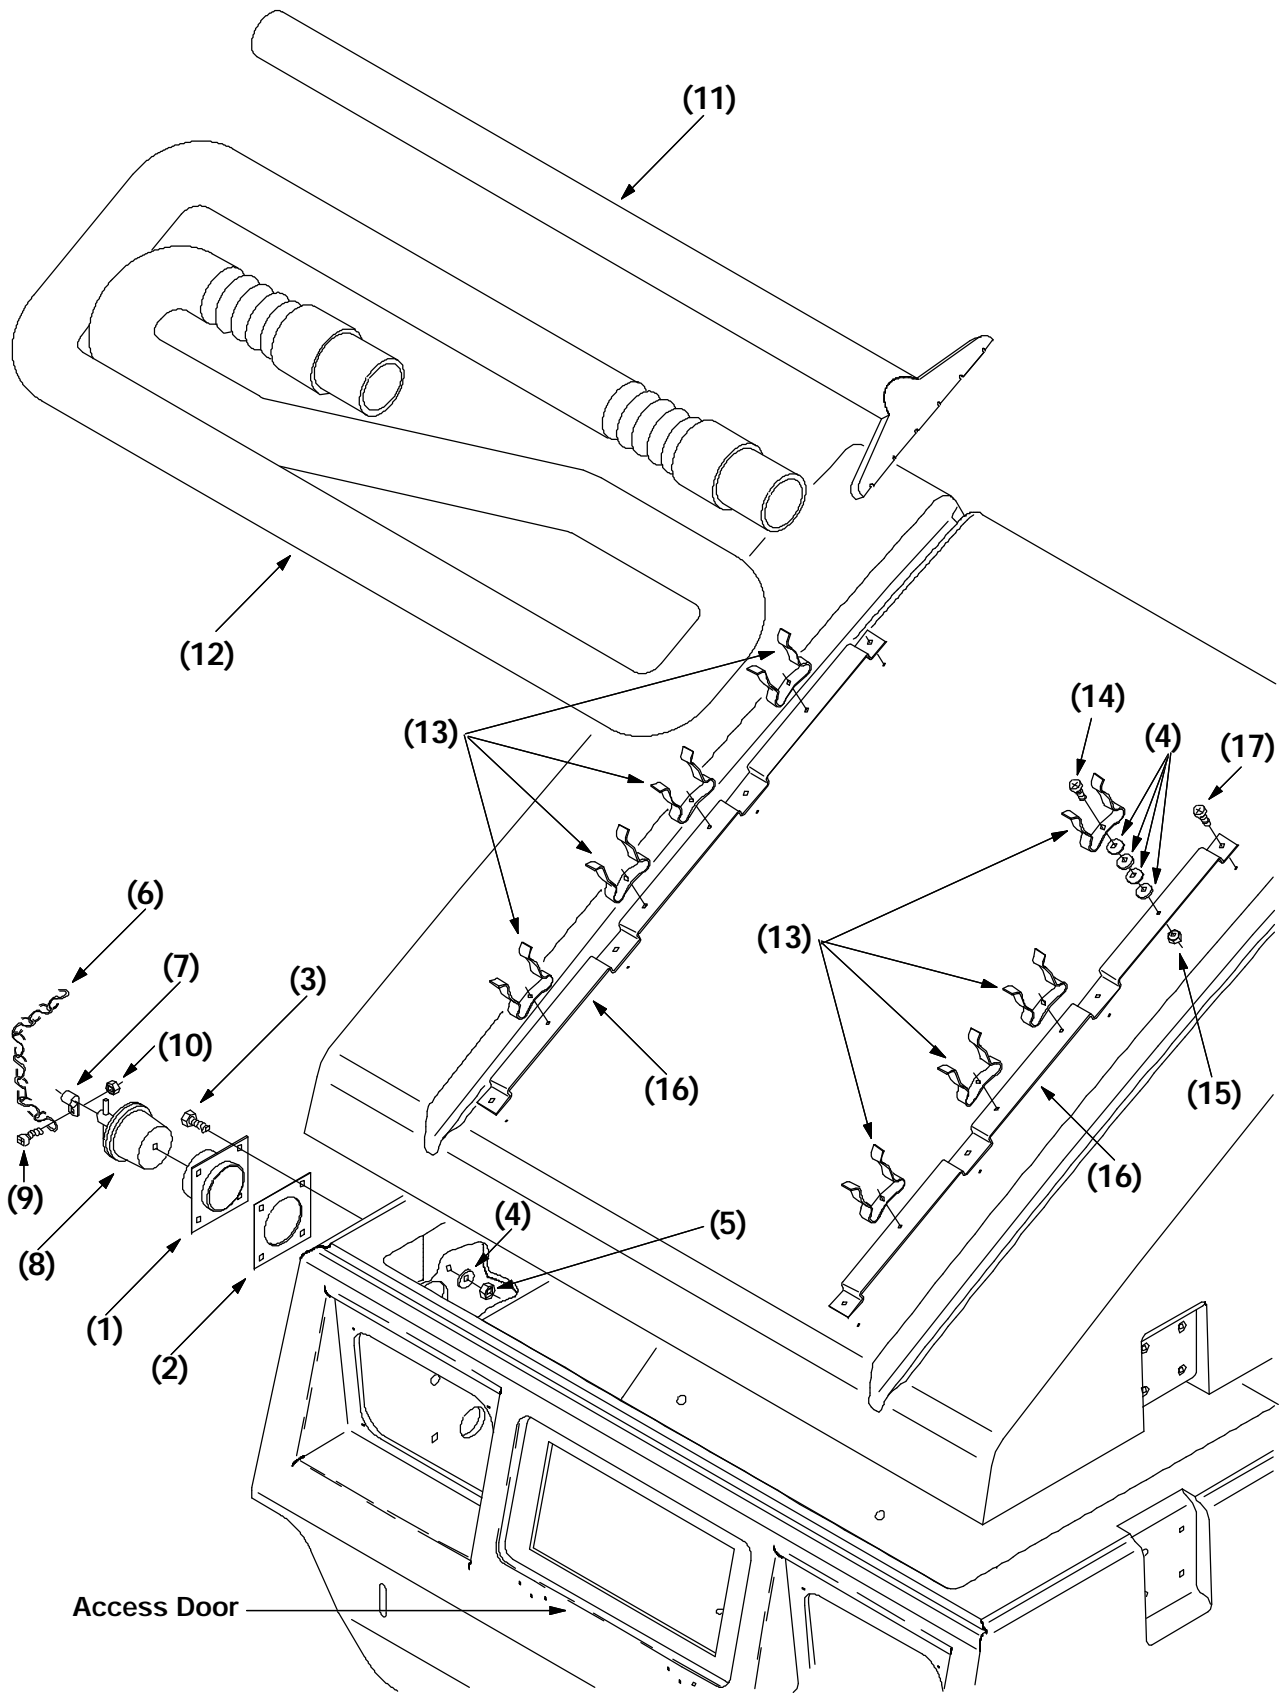

FIG. 2 - Installation of Vacuum Wand Bracket and Adaptor
1. Attach finger clips (13) onto vacuum wand brackets (16) using one pan screw (8), four flat washers (4), and one nut (15) per each clip as shown in FIG. 2.
4. Install vacuum wand brackets (16) with pan screws (17) provided. (Refer to FIG.2).
5. Snap wand (11) and hose (12) into finger clips (13). (Refer to FIG.2).
7. Install jack chain (6) to the top of drain plug (8) using cable clamp (7) and hardware (9), (10) provided. (Refer to FIG.2).
8. Open access door to access hopper interior. (Refer to FIG.2).